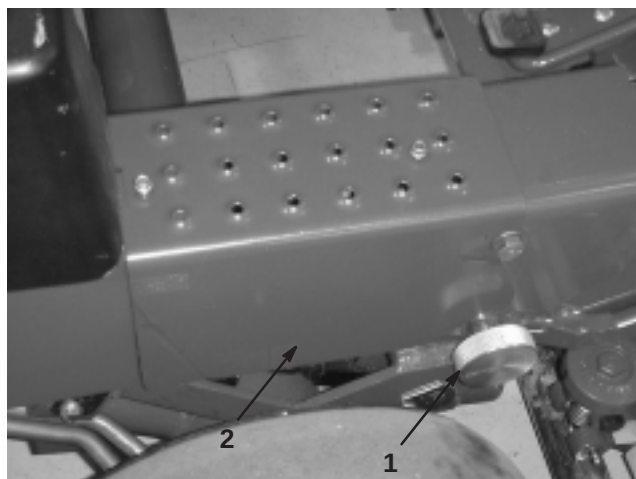

Figure 4
5. Pivot the steering arm to the upright operating position (notches). Secure with locking knob and cotter pin (Fig. 4).
6. Mount right step to frame with 2 self tapping screws (Fig. 4).